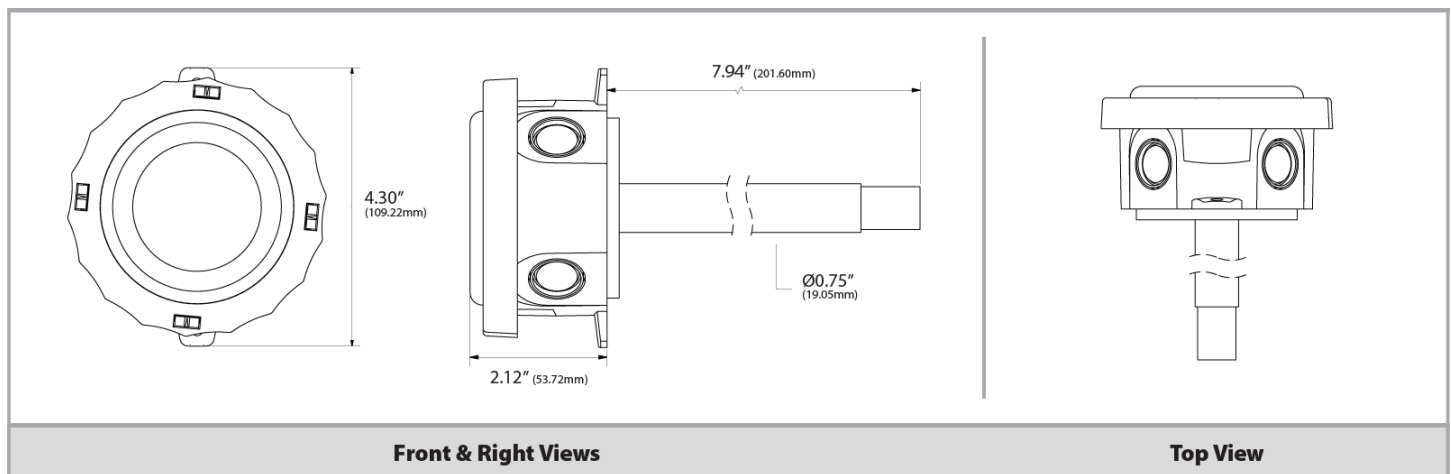

Figure 1: Dimensional Drawing
The BACnet/Modbus RTU Duct Temperature-only sensor uses the Plastic Box (-PB) enclosure. Alternatively, the Euro (-EH) enclosure is used for the Relative Humidity (RH) sensor and RH/Temperature Combo sensor (see FIGURE 1). Be sure to follow the instructions listed for your enclosure.